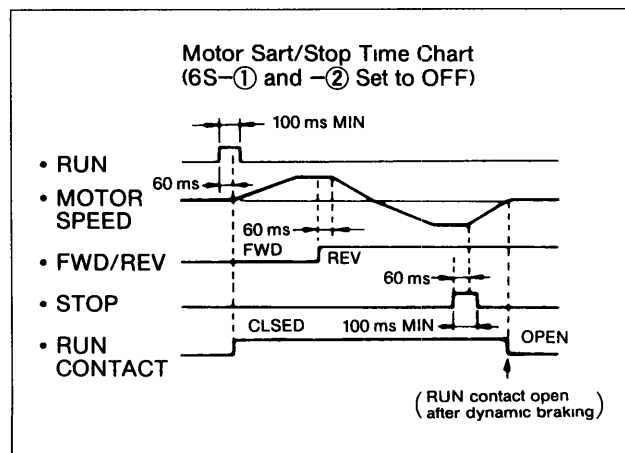

Fig. 15 Run and Stop Time Chart
Power voltage connector shown in Fig. 15 must be selected according to the type of AC main circuit power supply.
Fig. 15 shows the run-stop time chart when notches ① and ② of operation mode setting switch 6S are set to OFF.